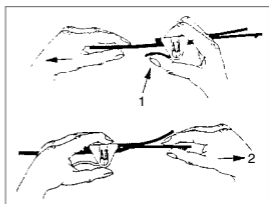

Fig. 5 Headband Lightweight
Adjustment of the **headband Lightweight** (see Fig. 5): To adjust the head size, the headband can be widened by pressing the lever (1) and tightened by pulling at the free end (2).